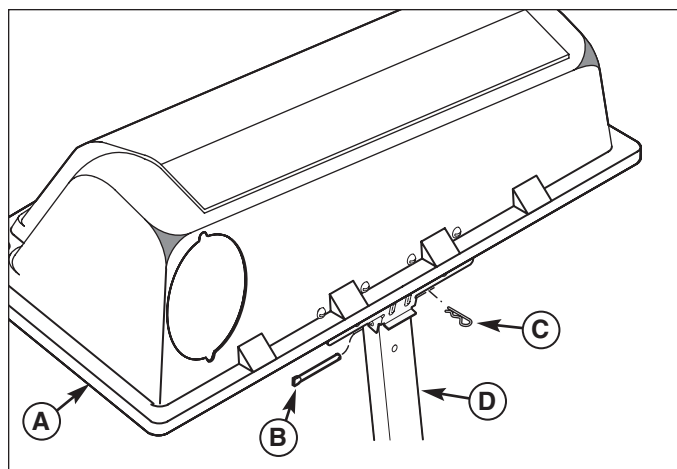

Figure 11. Install Cover to Channel Assembly
1. Set cover (A, Figure 11) on channel assembly. Slide pin (B) through hinge on cover and channel assembly (D) securing with hair pin (C).